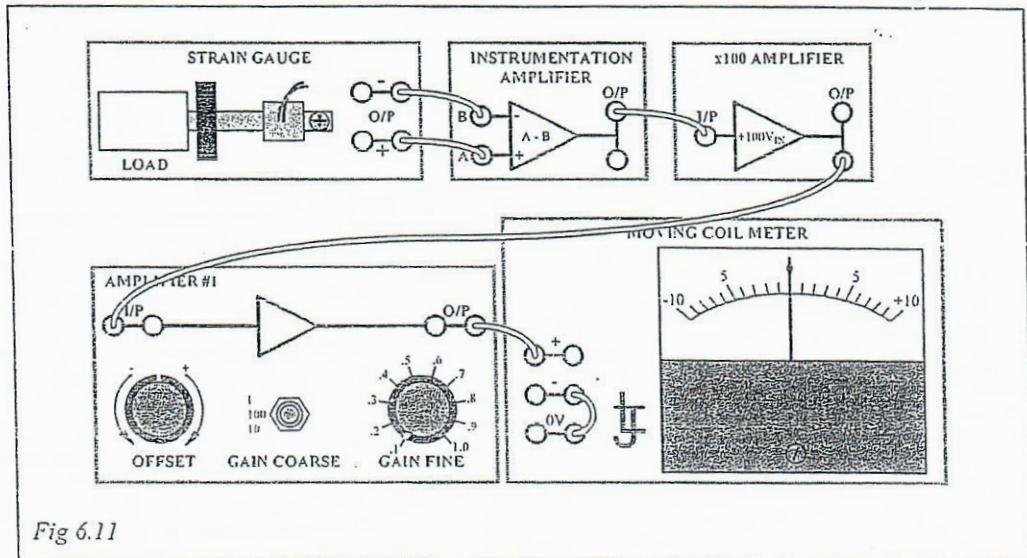

Fig 6.11
- Connect the circuit as shown in Fig 6.11 and set Amplifier #1 GAIN COARSE control to 100.